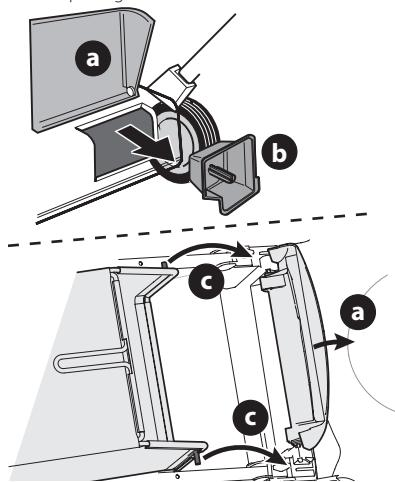

Figure 7
- Follow steps below to attach grass catcher (Figure 7):